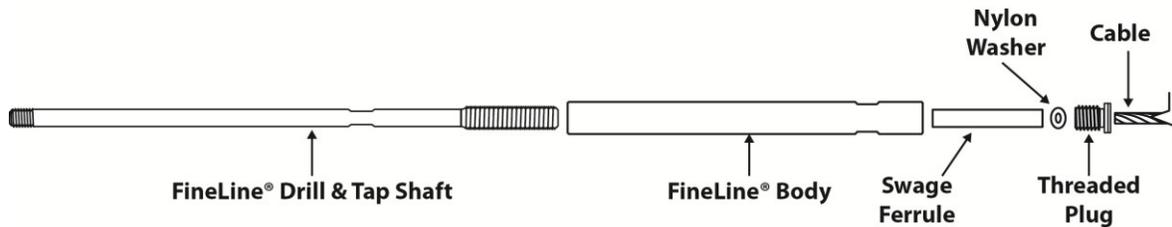

Fig 7
NOTE: Individual components may need assembly (Fig. 7).
- Insert and rotate clockwise the FineLine® Drill & Tap Shaft (Fig. 7)
NOTE: If using a FineLine® Drill & Tap Turnbuckle (Fig. 4 Ref #1), screw on the FineLine® Body 3-4 turns to allow cable tightening once installed (Fig. 7).
- Perform step 6.2. Screw FineLine® Body onto FineLine® Drill & Tap Shaft 3-4 times (Fig. 7).